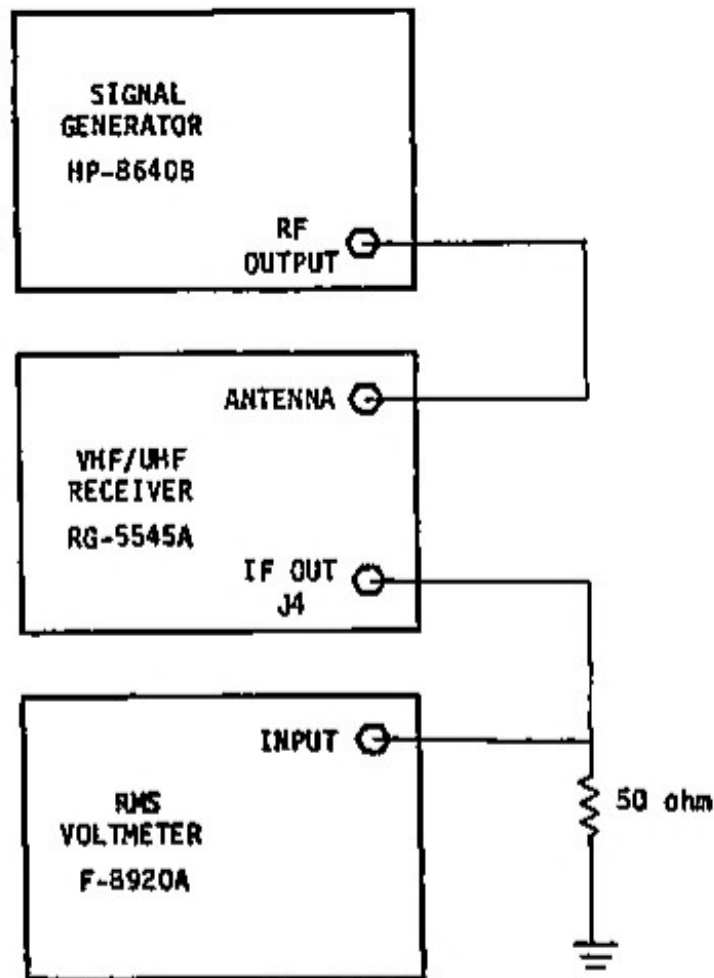

Figure 5-2. RF Gain Level Test
1. Connect 50 ohm termination and RMS voltmeter to IF OUT connector J4 on Receiver rear panel as shown in Figure 5-2.